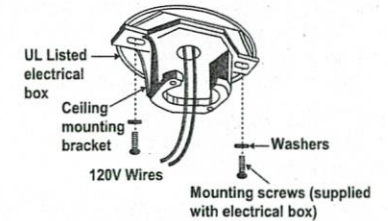

Figure 6
Step 3. Pass the 120-volt supply wires through the center hole in the ceiling mounting bracket as shown in Fig. 6.
Step 4. Secure the mounting bracket to the ceiling outlet box using screws and washers included with your outlet box. (Fig. 6)